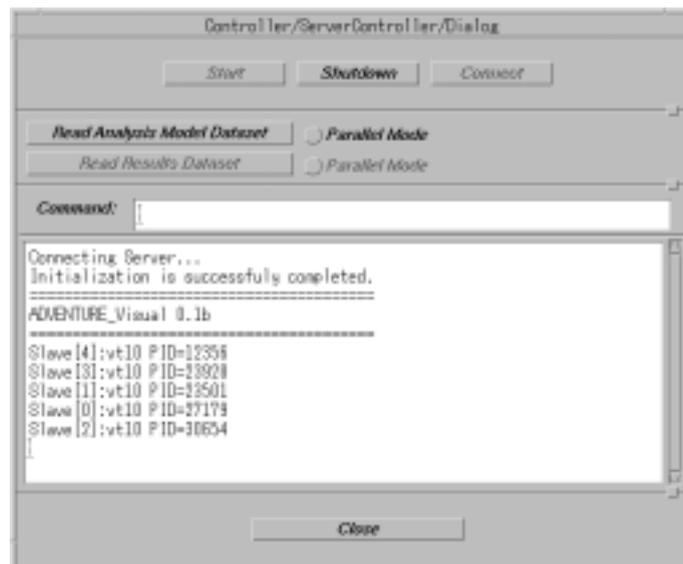

Fig. 6-8. Start of Server for Master
4. If the connection to the Server for Master is completed, information will be shown in the dialog box (Fig. 6-8).